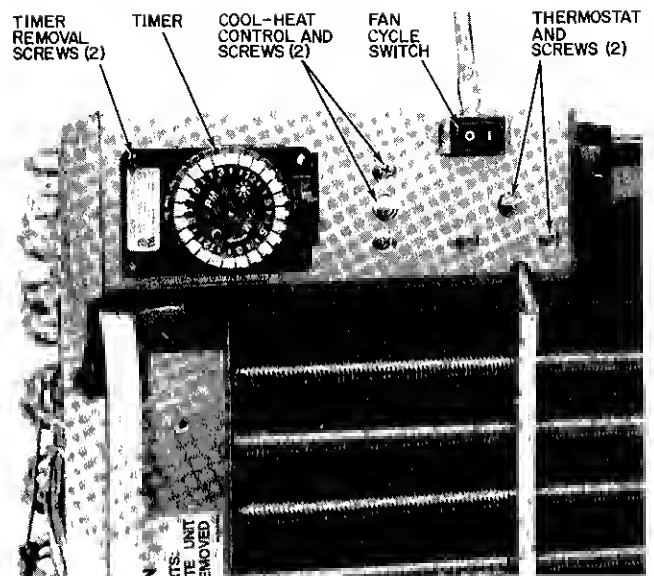

**Fig 9 — Sensing Bulb and Service Cord Screws**
- a Remove sensing bulb from coil See Fig 9
- b Remove service cord screw See Fig 9